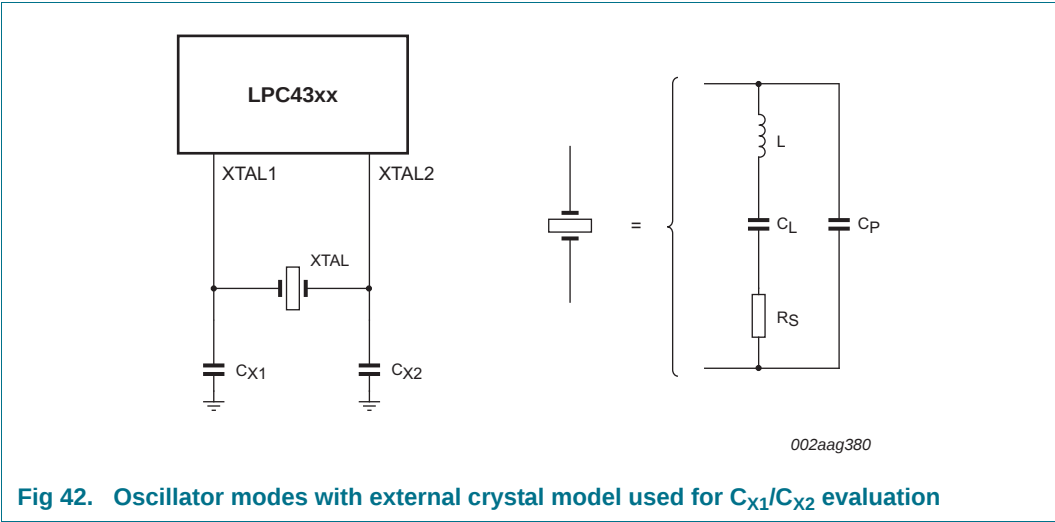

Fig 42. Oscillator modes with external crystal model used for C_{X1}/C_{X2} evaluation
- External components and models used in oscillation mode are shown in Figure 42, and in Table 40 and Table 41. Since the feedback resistance is integrated on chip, only a crystal and the capacitances C_{x1} and C_{x2} need to be connected externally in case of fundamental mode oscillation (L , C_L and R_s represent the fundamental frequency). Capacitance C_P in Figure 42 represents the parallel package capacitance and must not be larger than 7 pF. Parameters F_c , C_L , R_s and C_P are supplied by the crystal manufacturer.